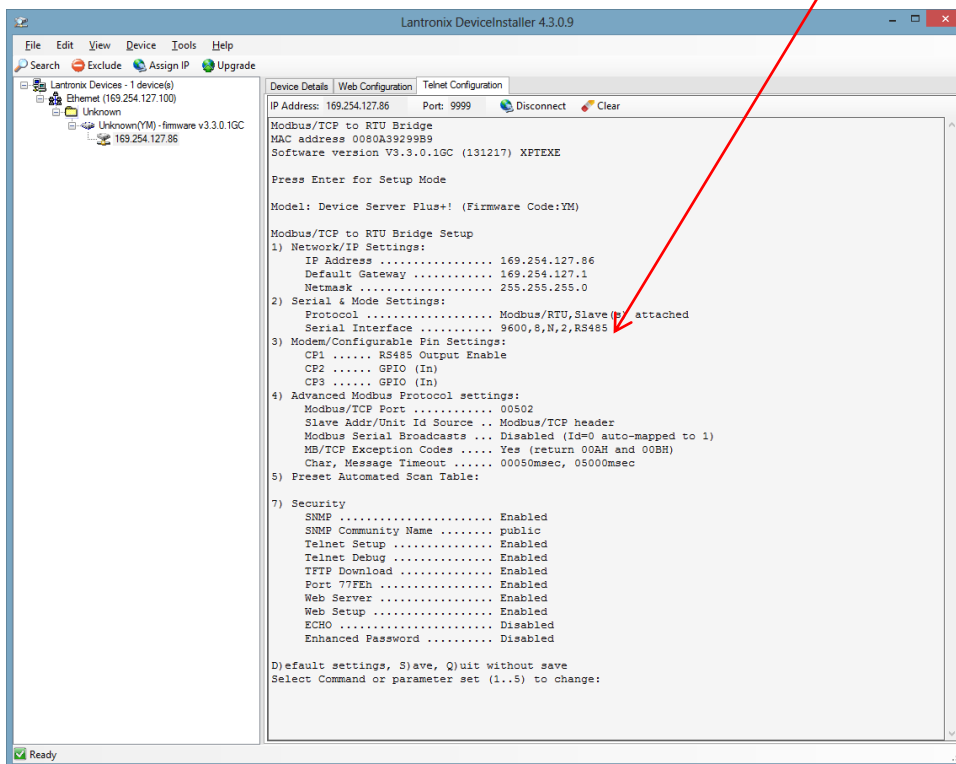

Fig 6.9.1
6.9 As shown in fig 6.9.1, verify the Web communication settings as “Baud rate = 9600, Databit = 8, Parity = None, Stop bit = 2”.